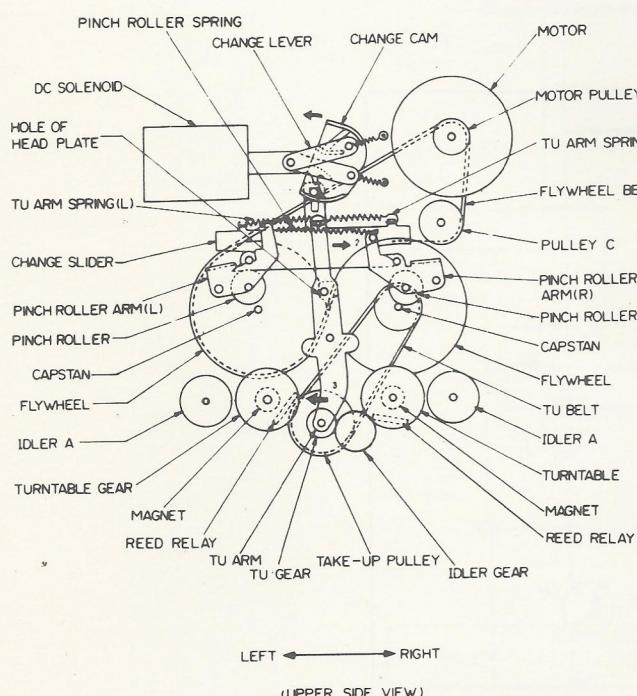

Fig. 2
1) IN PLAYBACK (See Fig. 2)
2. **Auto Reverse Mechanism** (refer to fig. 2)